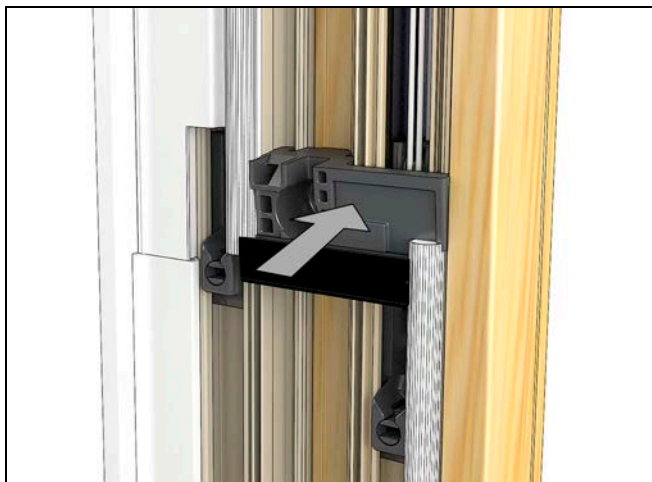

Figure 37
6. Install jamb receiver assembly onto jamb, making sure that it is properly aligned with alignment hole in jamb and pressed firmly against jamb. See Figure 37.